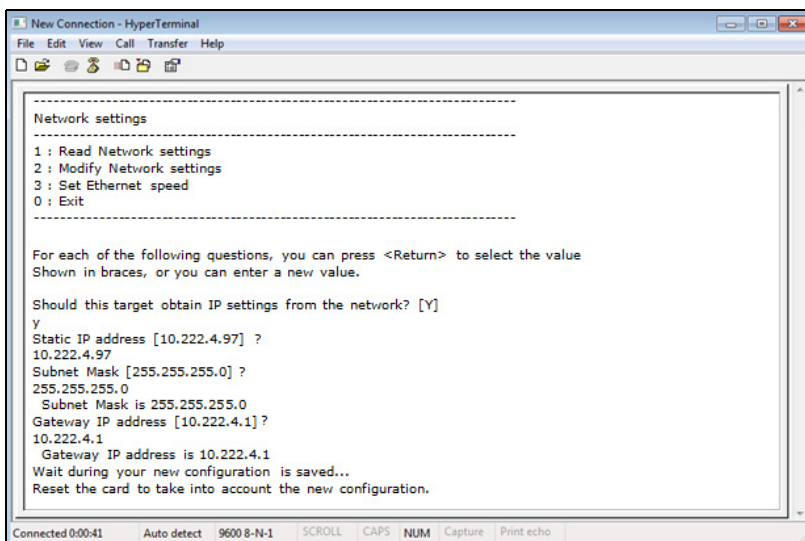

Figure 7. Network Configuration Menu
9. The settings supplied by the server using DHCP display (see Figure 7). Make a note of the static IP address.